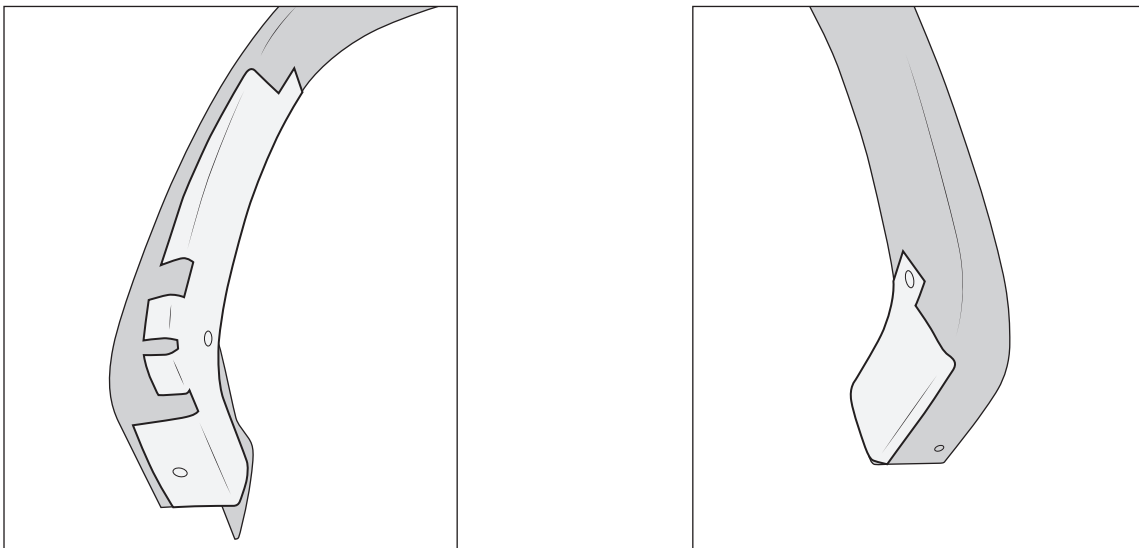

Figure 17
1. Use templates (RH: AEV30392AA & LH: AEV30393AA) to mark cut lines on flares. Take notice of the different cut lines for ZR2 and Bison flares on the templates (fig. 17).